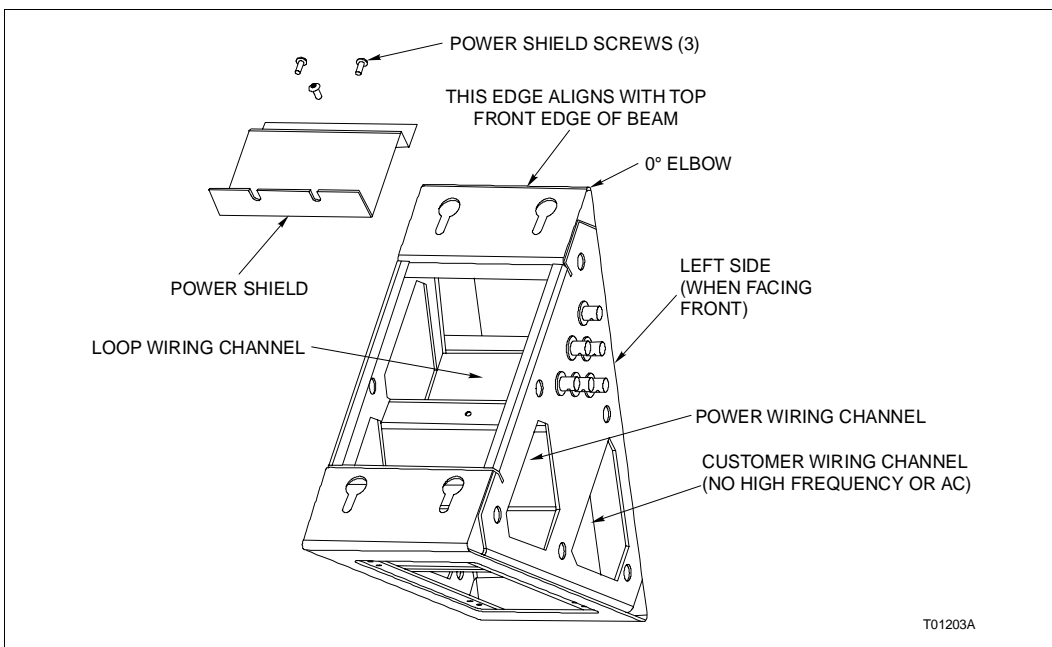

Figure PR25-2. Elbow (Typical)
- 3. Use the M4 Allen wrench to remove the power shield screws from the elbows and the ends of all the beams and remove the power shields. Figure PR25-2 shows the power shield on a 0° elbow. This arrangement is typical of the 45° elbow and the beam.